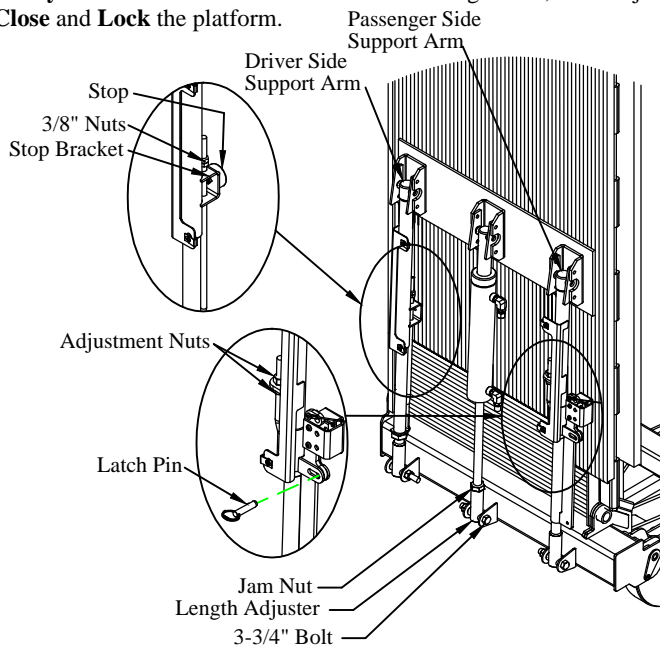

Figure 5: Platform closing adjustment.
3. **Loosen** the 3/8" nuts on the driver side support arm (Figure 5) so they do not contact the stop when the platform is folded.
5. **Adjust** the fold cylinder for closed/vertical position, if needed (Figure 5).
12. **Loosen** the adjustment nuts on the passenger side support arm (Figure 5).
7. **Remove** the 1/2" x 3-3/4" bolt and nut from the fold cylinder length adjuster (Figure 5).
2. **Remove** the padlock and locking pin (Figure 5).